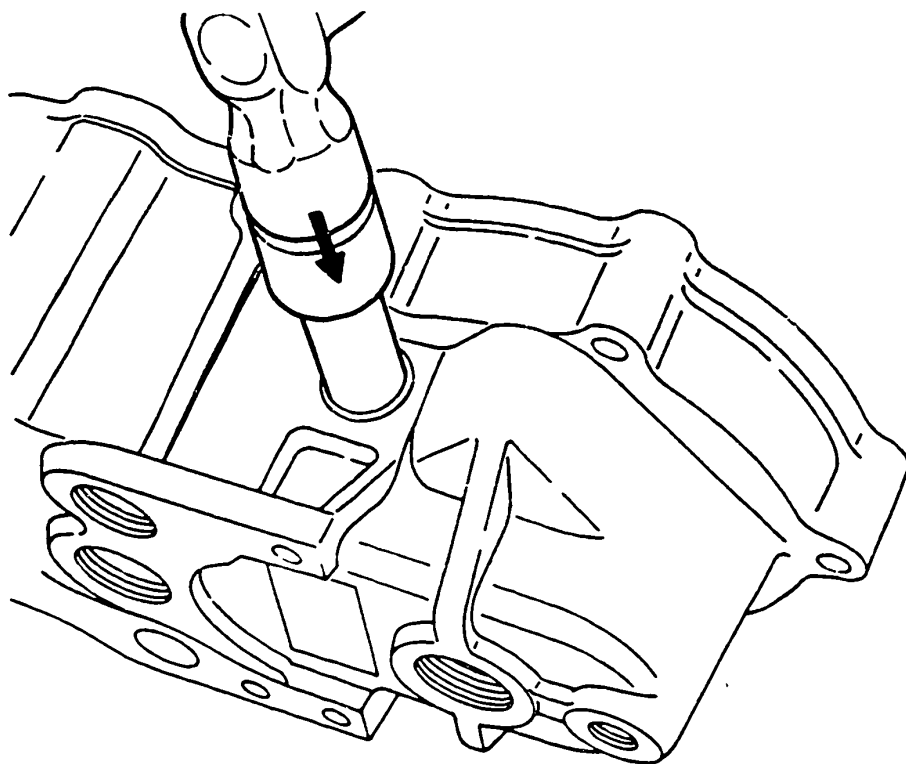

Fig. 78: Pressing in tensioning-lever-shaft plug
10. The governor cover must be fitted with new plugs (34/2) which are to be pressed into the cover; these plugs secure both ends of the tensioning-lever shaft. On pressing them in, flare the plugs such that they sit tightly (Fig. 78).